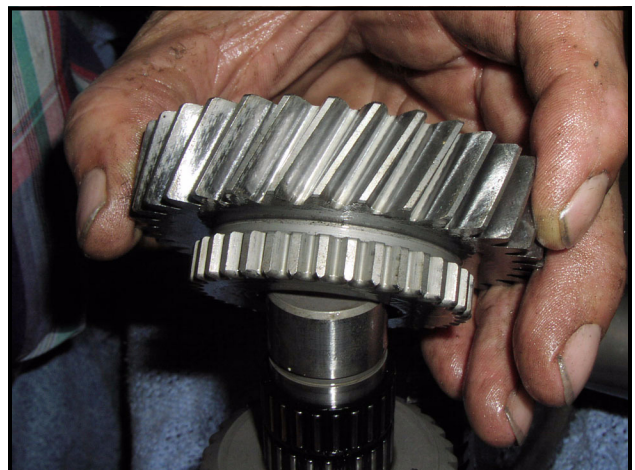

Figure 8-33 Remove Small Helical and Engagement Gear Assembly from Intermediate Shaft
12. Slide the small helical and engagement gear assembly from the intermediate shaft and two needle bearing assemblies (**Figure 8-33, Page 8-11**).